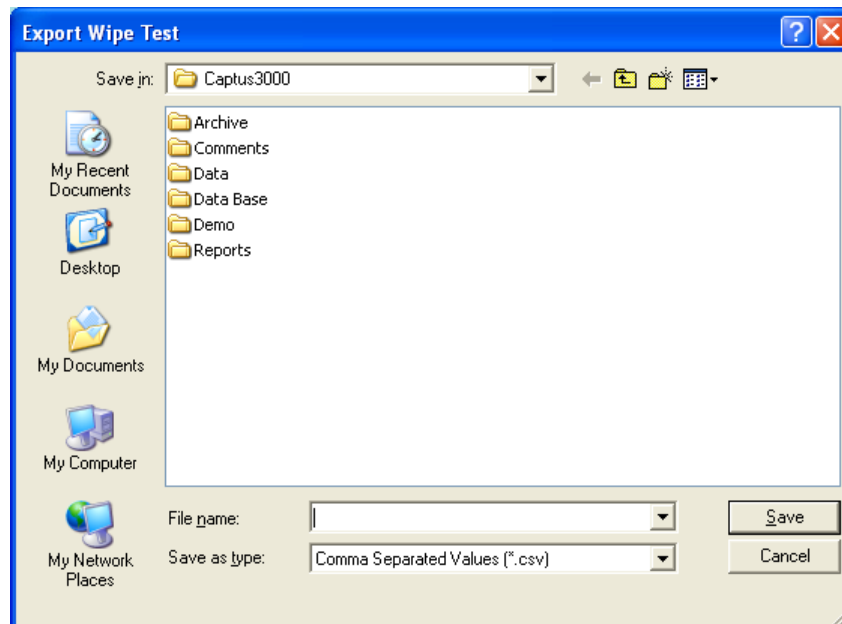

Figure 8-31 Export Wipe Test Dialog Window
2. Click the **Export Selected** button to export the selected result(s). Figure 8-31 Export Wipe Test Dialog Window will appear.